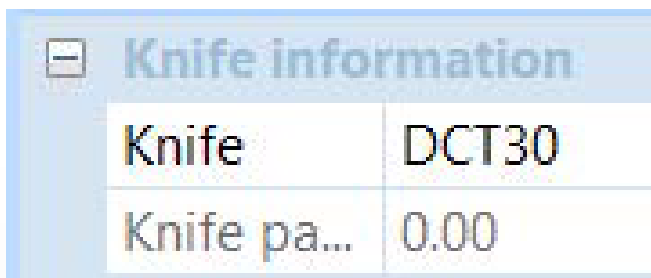

Figure 4.11
- ☒ Changing the tool used - Knife [Figure 4.11].